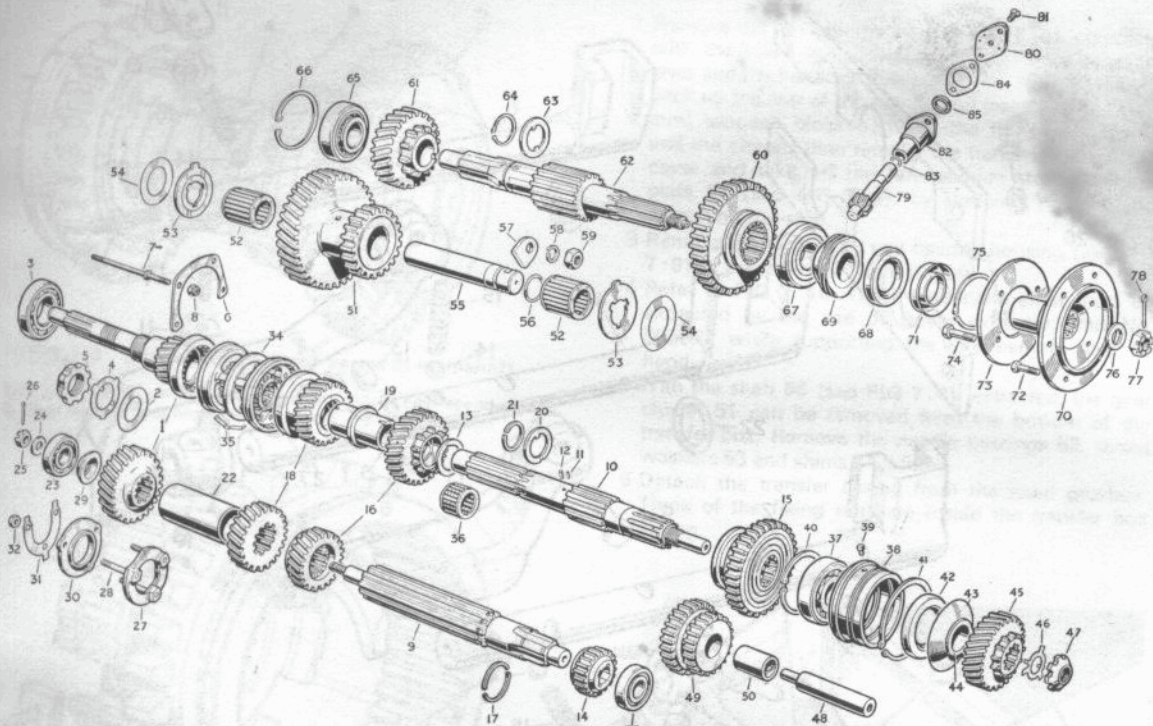

FIG 7:4 Gears and shafts
- Key to Fig 7:4** 1 Primary pinion and constant gear 2 Shield for primary pinion 3 Ballbearing for primary pinion 4-5 Fixings for bearing 6-8 Fixings for bearing 9 Layshaft 10 Mainshaft 11 Peg for 2nd gear thrust washer 12 Peg for mainshaft distance sleeve 13 Thrust washer for 2nd speed gear 14 1st speed layshaft gear 15 1st speed mainshaft gear 16 2nd speed layshaft and mainshaft gear 17 Splitring for 2nd speed layshaft gear (early gearboxes) 18 3rd speed layshaft and mainshaft gear 19 Distance sleeve for mainshaft 20 Thrust washer for 3rd speed mainshaft gear 21 Spring ring fixing 2nd and 3rd gear 22 Sleeve for layshaft 23 Bearing for layshaft, front 24-26 Fixings for bearing to layshaft 27 Bearing plate assembly for layshaft 28 Stud for bearing cap 29 Distance piece for layshaft 30 Retaining plate for layshaft front bearing 31-32 Fixings for cap and bearing 33 Bearing for layshaft, rear 34 Synchronizing clutch 35 Detent spring for clutch 36 Roller bearing for mainshaft 37 Ballbearing for mainshaft 38 Housing for mainshaft bearing, rear 39 Peg, housing to casing 40 Circlip, bearing to housing 41 Circlip, housing to casing 42 Oil seal for rear of mainshaft 43 Oil thrower for mainshaft 44 Distance piece, rear of mainshaft 45 Mainshaft gear for transfer box 46-47 Fixings for gear 48 Shaft for reverse gear 49 Reverse wheel assembly 50 Bush for reverse wheel 51 Gear, intermediate 52 Roller bearing for intermediate gear 53 Thrust washer for intermediate gear 54 Shim for intermediate gear 55 Shaft for intermediate gear 56 Sealing ring for shaft, rear drive 57 Retaining plate for shaft 58-59 Fixings for plate 60 Low gearwheel 61 High gearwheel 62 Output shaft, rear drive 63 Thrust washer for high gearwheel 64 Circlip fixing washer to shaft 65 Bearing for output shaft, front complete 66 Circlip fixing bearing to case 67 Bearing for output shaft, rear 68 Oil seal for output shaft 69 Speedometer worm flange for brake drum bolts 70 Flange for output shaft, rear drive 71 Mudshield for flange 72 Fitting bolt for brake drum 73 Retaining plate for pinion 74 Fitting bolt for propeller shaft 75 Circlip retaining bolts and flange 76-78 Fixings for flange for sleeve 79 Speedometer pinion 80 Retaining plate for pinion 81 Screw fixing plate to housing 82 Sleeve for pinion 83 Sealing ring for sleeve 84 Joint washer for sleeve 85 Oil seal for pinion